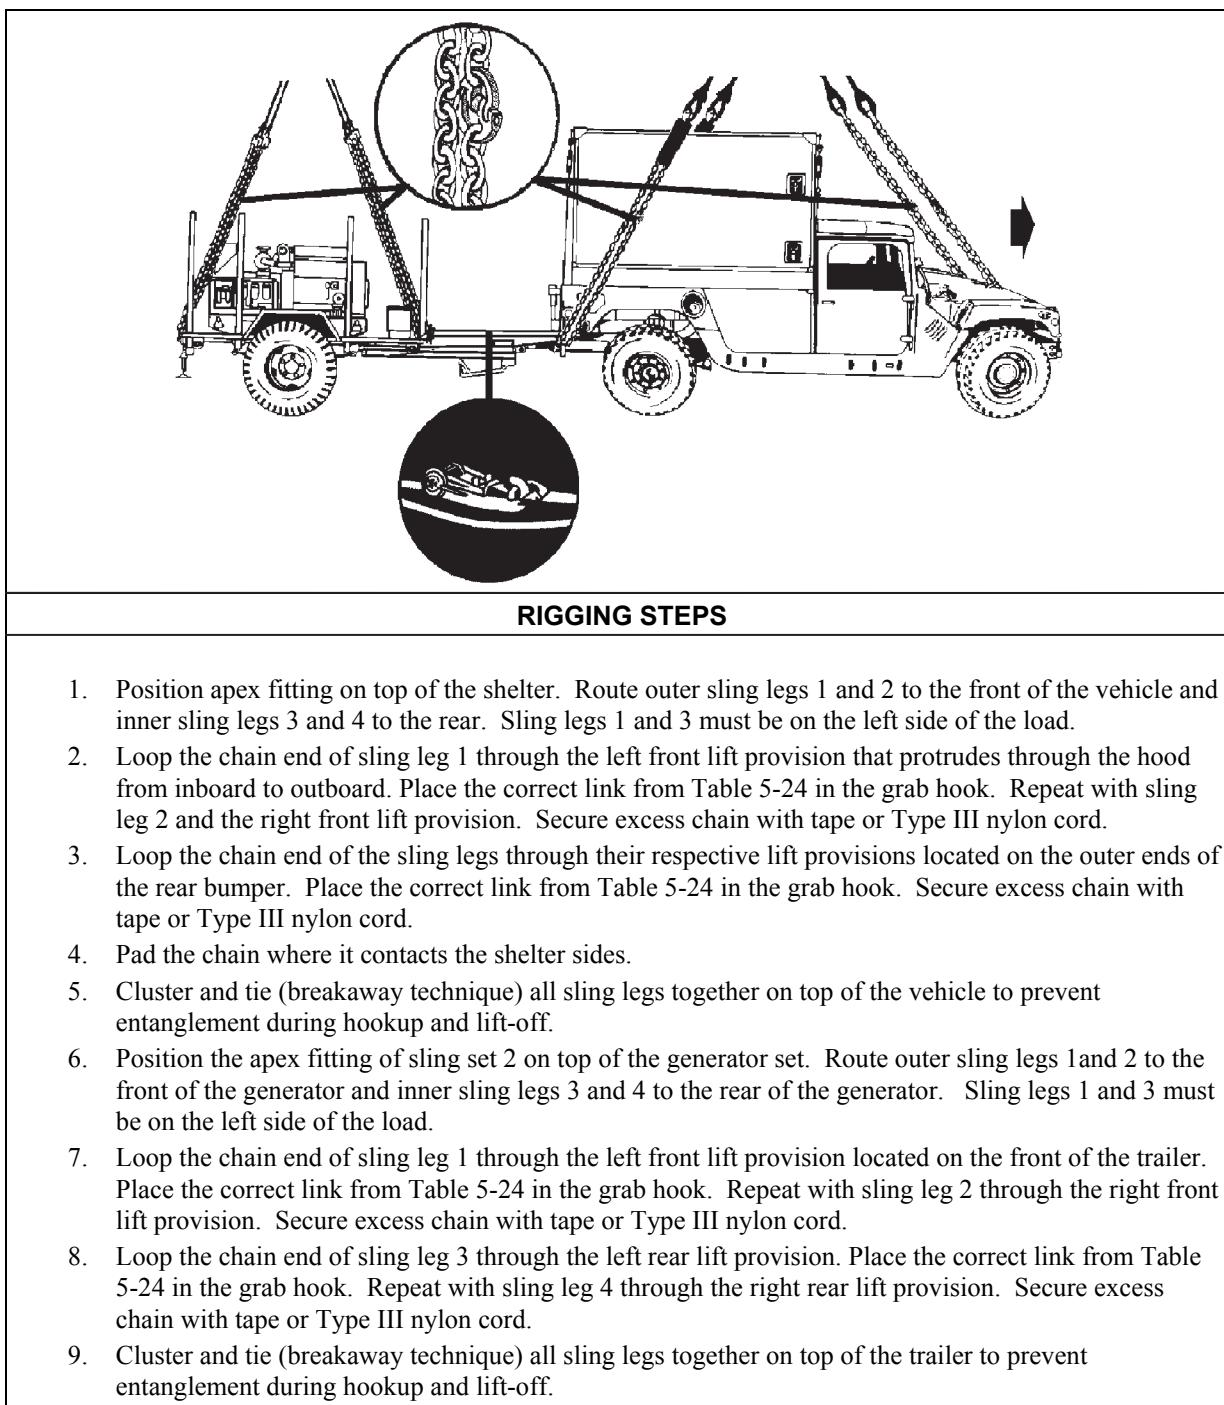

Figure 5-24. M1097A2 Shelter Carrier with S-250 Shelter and Trailer Generator Sets on M116A3 Trailer
- **Rigging.** Rig the load according to the steps in Figure 5-24.